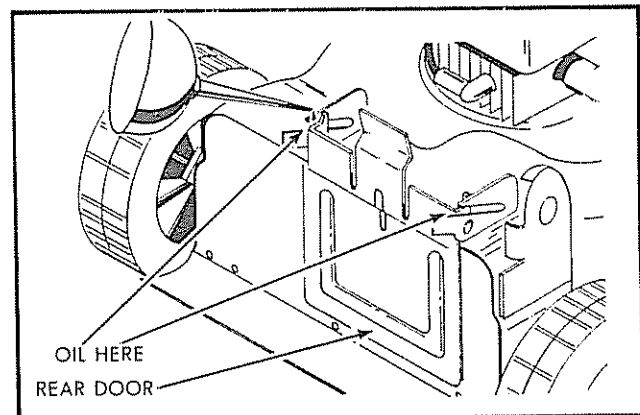

FIG. 22
**REAR DOOR HINGE:** Put a few drops of the same oil as used in the engine on hinge points of rear door once or twice each year (See Fig. 22).